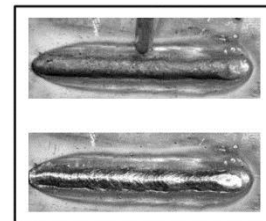

Fig. 26
8. Wait for the weld to cool and carefully chip away the slag to reveal the weld metal underneath (Fig. 26).